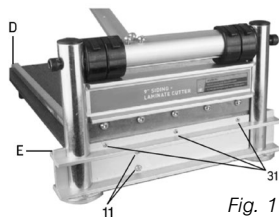

Fig. 1
1. Attach the table assembly (D) to the cutting assembly (E) using the 2 small Philips head screws (#31) (Fig. 1).
2. Secure the table brace (E) using the 2 large pan screws (#11) (Fig. 1).